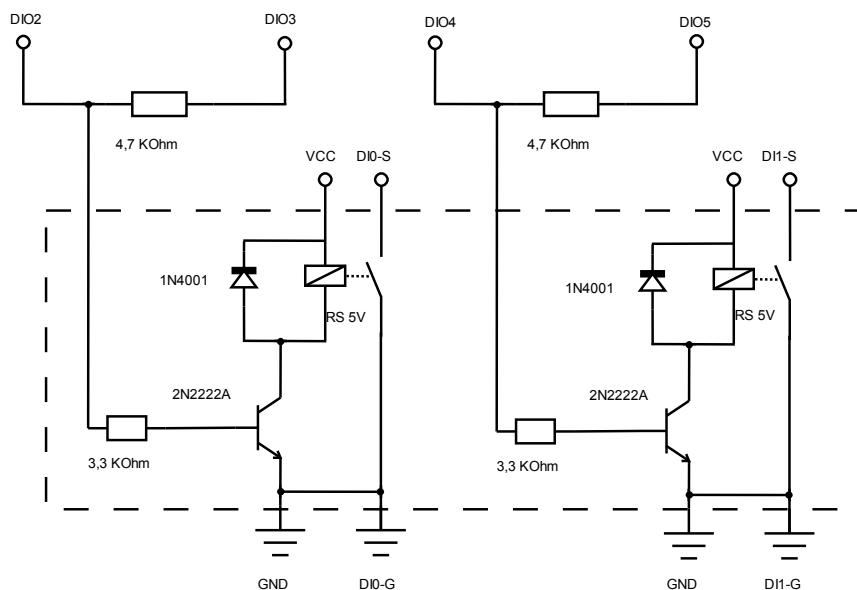

Figure 35: Special Board for GPIO Tests
- special board for GPIO tests, that connects optically isolated inputs to bidirectional channels (see Figure 35)